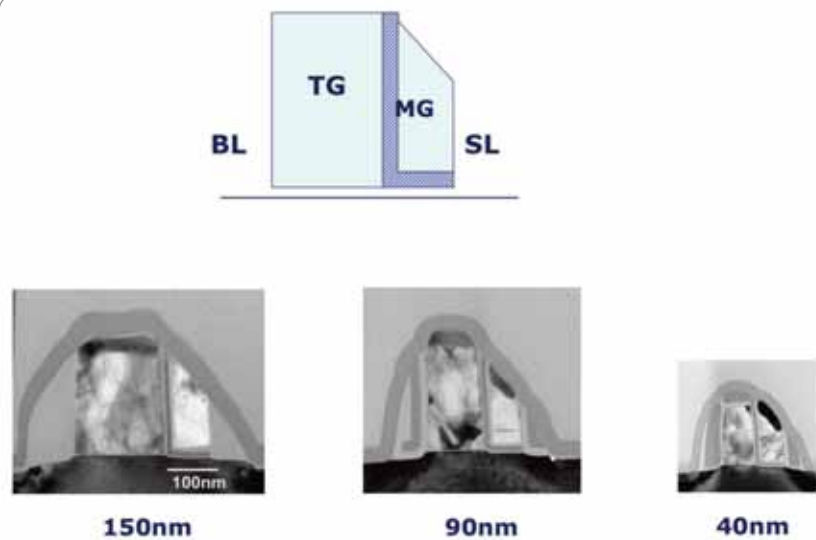

Figure 2: Scalability
**Figure 42: Dual slope single breakpoint protection locus described by the circuit of figure 41. Resistor  $R_4$  modifies the linear single slope segment BCD of figure 2 by effecting a vertical translation of segment BC about point C**